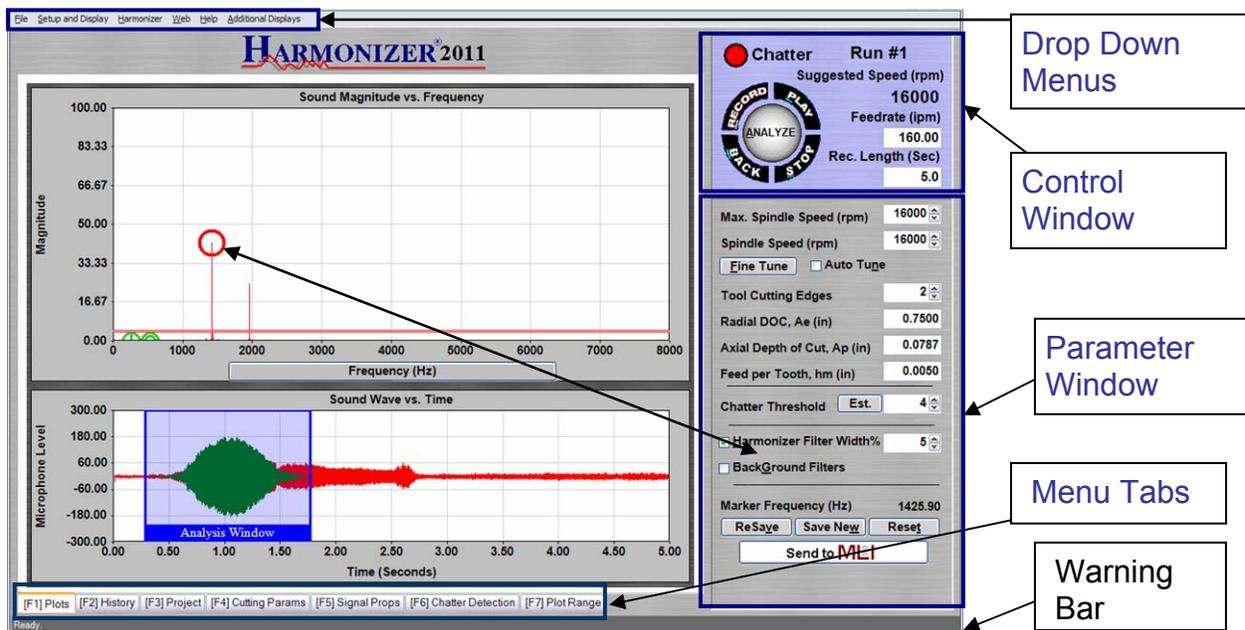

Figure 11: The plots screen as seen when first opening HARMONIZER®
Upon starting HARMONIZER® software, the Plots Screen, shown in Figure 11, will be displayed. This is the main screen that displays the most important operating parameters in three sections. On the left is the Data Display Window which shows two plots, the **Sound Magnitude vs. Frequency** (top) and the **Sound Wave vs. Time** (bottom). The right-hand side of the screen is divided into two sections, the **Control Window** at the top and the **Parameter Window** at the bottom.
The **Sound Magnitude vs. Frequency** (top plot in Figure 11) displays the Fast Fourier Transform (FFT) of the sound data displayed in the **Sound Wave vs. Time** plot (bottom plot in Figure 11).
- The Drop Down Menu at the top left of the screen (Figure 11)
- The Menu Tabs at the bottom of the screen (Figure 11), or
Harmonizer Filter Width: This selection turns on (green check mark) or off the spindle filters. If the spindle harmonic filters are not enabled HARMONIZER® will not estimate a chatter threshold. A warning will be displayed in the Warning Bar, Figure 11 ESTIMATE ERROR: The harmonic filters must be enabled in order to estimate a new chatter threshold. It also allows the user to change the recommended width of the harmonic filter. 5% is the nominal value. A more through explanation can be found in the [\[F6\] Chatter Detection Filters](#) section.
Marker Frequency (Hz): Displays the Frequency value for the Marker, see Figure 11.
The [\[F1\] Plots](#) returns the user to the main screen which displays the Sound Magnitude vs. Frequency (top plot in Figure 11) and the Sound Wave vs. Time plot (bottom plot in Figure 11). The Sound Magnitude vs. Frequency displays the Fast Fourier Transform (FFT) of the sound data displayed in the Sound Wave vs. Time. The Sound Wave vs. Time displays the recorded sound level versus time.